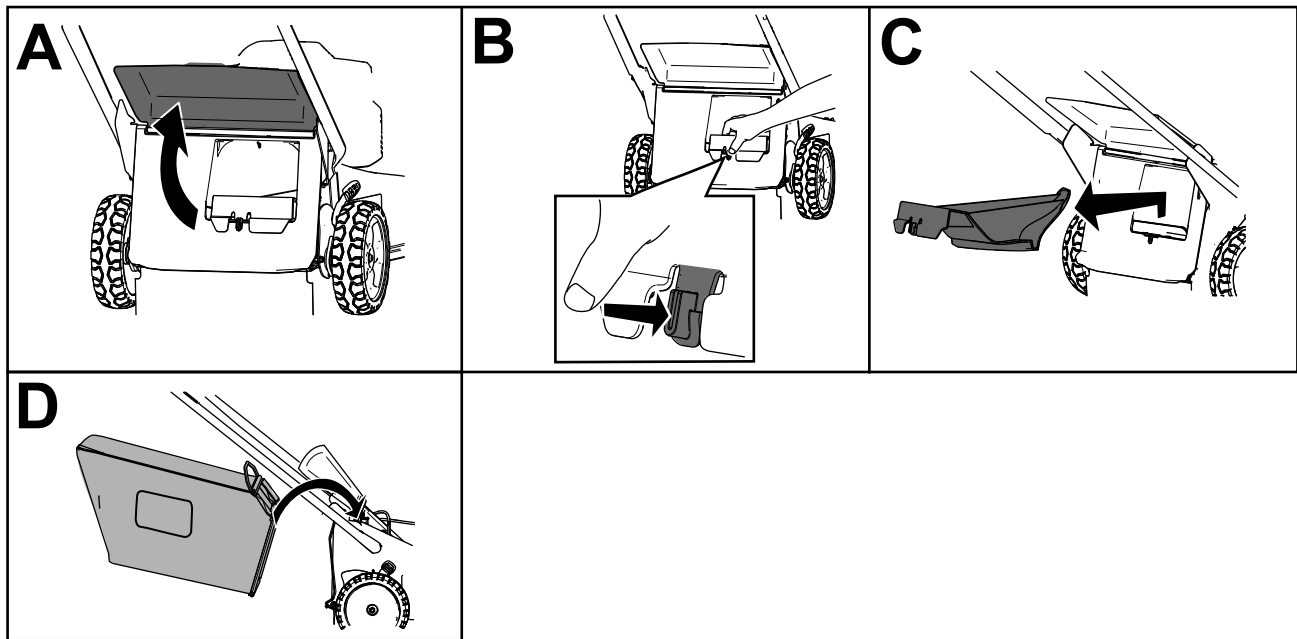

Figure 18
**Note:** To unlock the rear plug, rotate the lever on the plug to the right (Figure 18).
3. Raise and hold up the rear deflector (A of Figure 18).
4. Remove the rear-discharge plug by pushing in the latch with your thumb and pulling the plug out from the machine (B and C of Figure 18).
5. Install the bag-rod ends into the notches at the base of the handle, and rock the bag back and forth to ensure that the bag-rod ends are seated at the bottom of both notches (D of Figure 18).
3. Remove the bag rod on the grass bag from the notches at the base of the handle (A of Figure 18).
4. Install the discharge plug (B of Figure 18).
5. Lower the rear deflector (C of Figure 18).